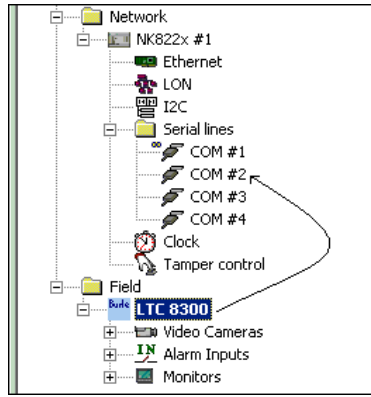

Fig 32 Linking Philips/Burle switcher to NK822x port
3. Drag and drop the node to the network port devoted to Burle/Philips unit (see Fig 32).